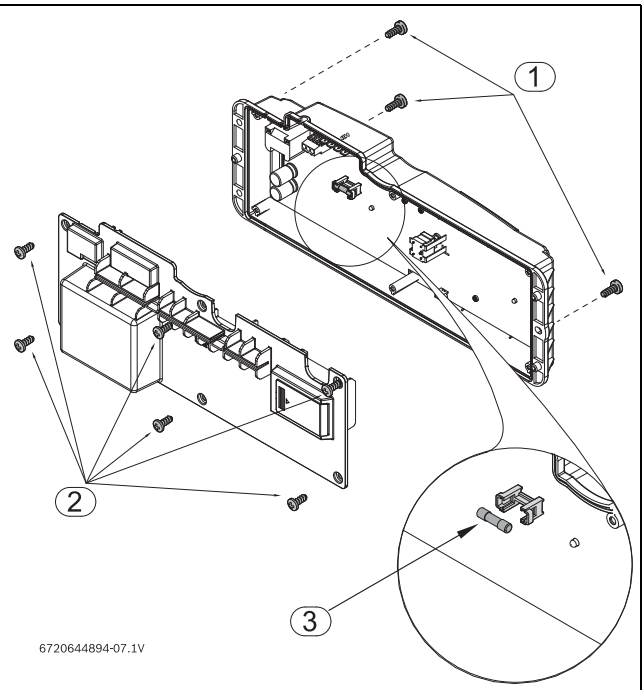

Fig. 50 Fuses position
► Remove the six screws from the back cover of the control unit, see fig. 50, pos. 2.
► Check the fuses in the printed circuit board, see fig. 50, pos. 3.